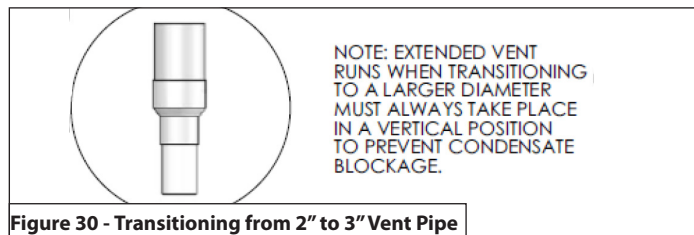

Figure 30 - Transitioning from 2" to 3" Vent Pipe
**NOTE:** INCREASING VENT SIZE: TRANSITIONING FROM 2" TO 3" VENT PIPE MUST ALWAYS TAKE PLACE IN A VERTICAL POSITION TO PREVENT CONDENSATE BLOCKAGE. See Figure 30.